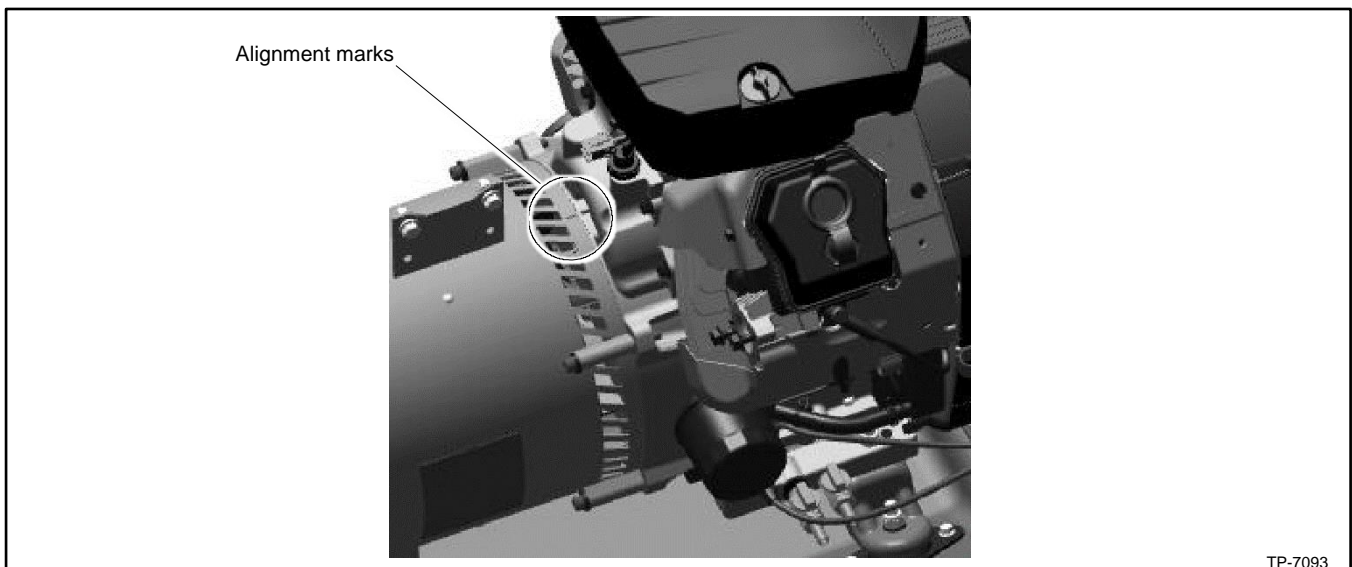

Figure 132 Alternator Alignment Marks
- c. Align the mark on the top of the stator with the center of the slot in the generator adapter. See Figure 132.